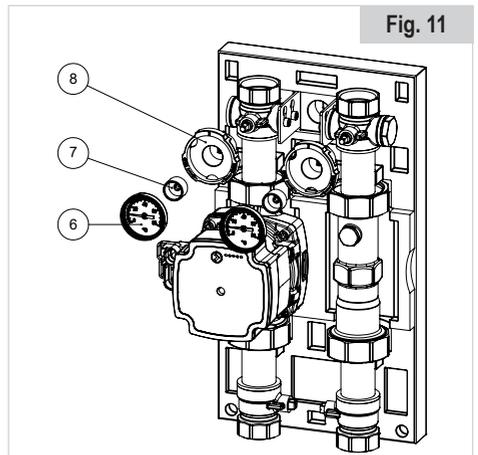

Fig. 11
- Remove the temperature gauges (6) using a flat screwdriver, the temperature gauge pockets (7) using a 6 mm Allen key, the handles (8) and reposition them by inverting the red handle with the blue one. (see Fig. 11). It is not necessary to disassemble the ball valves from the bracket.